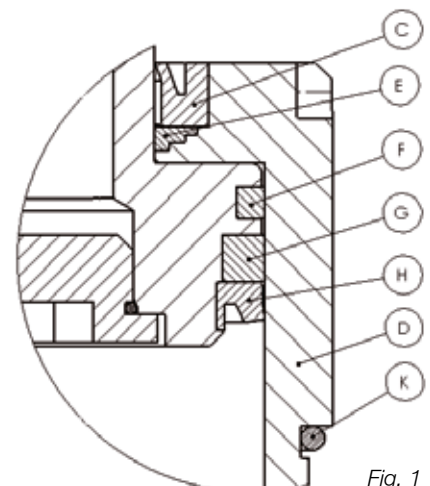

Fig. 1
6.10 Carefully insert the guide ring (E) and the stripping ring (C) using a rubber hammer (make sure it is in the right position, see fig. 1).
6.13 Insert seal (H). (check correctly positioned - see fig. 1)